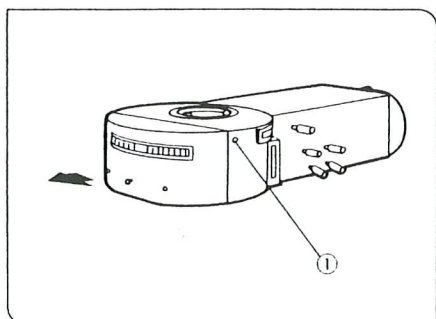

Fig. 1
The design of reflected light fluorescence microscopes features dichroic mirrors which direct the excitation light through the objective, to the area of the specimen, thus providing efficient illumination. (Fig. 1)
(Figs. 1, 2, 3)
1. Loosen the clamping screw **1** at the right of the vertical illuminator using the Allen screwdriver provided with the microscope frame. (Fig. 1)
(Fig. 1)